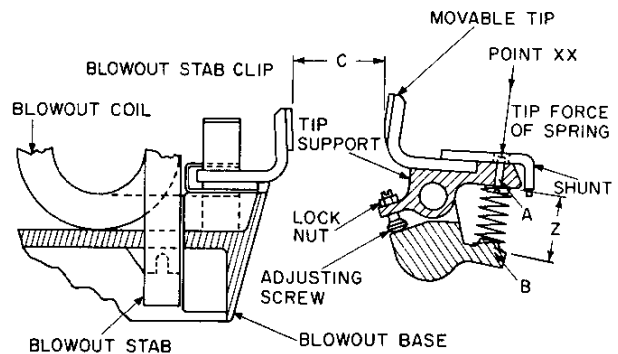
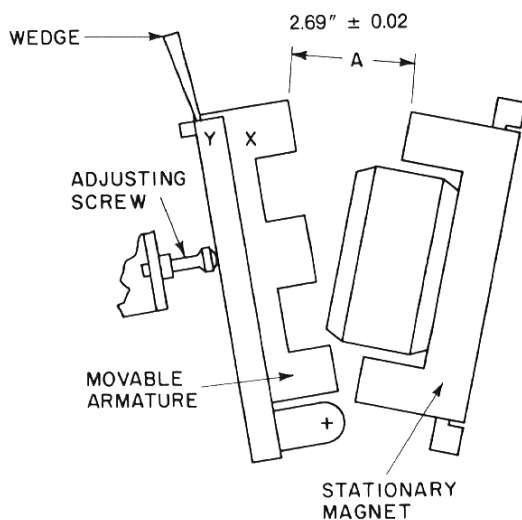

Fig. 14. Movable and stationary contact structures
Fig. 15. Magnet structure (ac and dc)
1. (See Fig. 14 and Fig. 15.) With the contacts just touching, measure the magnet gap “A” per Fig. 15. If the gap is less than 0.23 inch, replace both the movable and stationary contacts. Contacts not replaced at this time may overheat or weld together. Wedge the top of the armature away from its supporting bracket as far as it will go (see Fig. 15) when measuring the “A” dimension.
The contacts are adjusted to make at the same time within 1/64 inch. When replacing the contacts, check this adjustment by picking up the contactor mechanically until the contacts of the first pole are just touching each other. The maximum gap between the contacts of any other pole of a contactor must not exceed 1/64 inch. Adjust the movable-contact position to obtain this requirement as well as the wipe per Table 2, by means of the set-screw in each movable-tip support. The set-screws should be locked in their final position by means of their locknuts (see Fig. 14).
then be easily measured directly over the spring seat as shown in Fig. 14.
Contact gap "C" (see Fig. 14) must be 1.00 inch per Table 2. The "C" dimension can be obtained by slightly moving the back-stop adjusting screw. When the "A" dimension with tips fully open and just touching and the "C" gap are obtained, the initial and final contact forces should be properly set without further adjustment.